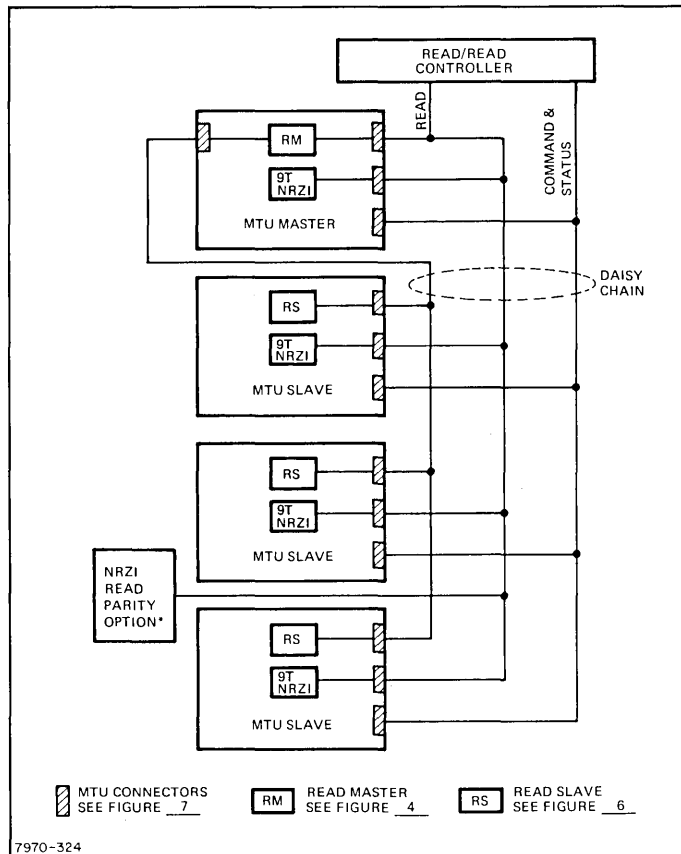

Figure 3a. Read/Read 9-Track PE/NRZI Configuration
(1) **Read/Read 9-Track PE/NRZI (Figure 3a).** Both master and slave units contain the same command-and-status and NRZI read electronics. Complete PE read data electronics is contained only in the master unit. The PE and NRZI controller interfaces may be used as separate connectors (figure 7), or in parallel from the PE connector when the parity option is used (figure 3a). This is accomplished by the daisy-chain method shown in figure 3a. Slave unit read capability is accomplished through the master unit for multi-unit parallel-connection operations. A constant transfer rate option is available in this configuration if a constant data transfer rate between PE and NRZI is required. Density selection is front-panel selectable.